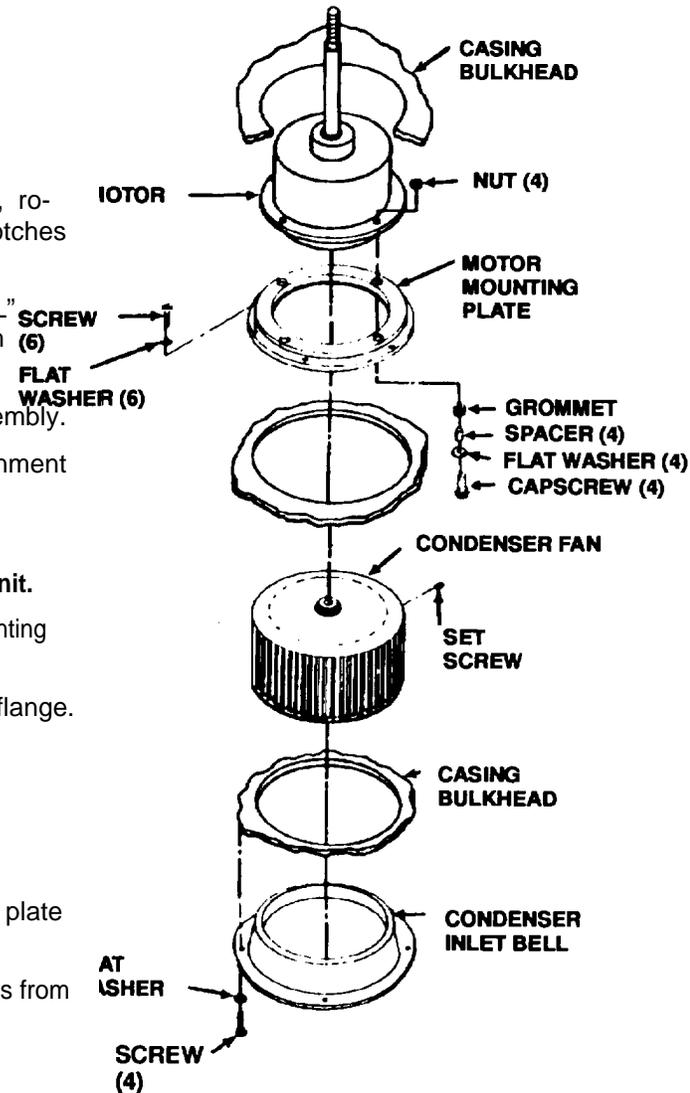

Figure 4-71. Evaporator and Condenser Fan Motor (B2) and Condenser Fan
- e. Installation. (See Figure 4-71.)
- (1) Carefully insert condenser fan into housing. Open end of fan must face down.
- (2) Insert motor mounting plate into position with the insulation side facing up.
- (3) Position motor into unit. Take care that fan is not damaged.
- (4) Lift motor high enough to allow assembly of motor to motor mounting plate hardware.
- (5) Be sure four grommets are in place on motor mounting plate.
- (6) Align marks on motor and motor mounting plate made at disassembly. (See para 4-63c (6) above.)
- (7) Secure motor mounting plate with four capscrews, spacers and flat washers.